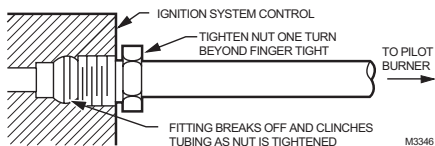

Fig. 7. Tighten new fitting and nut. Always use a new compression fitting.
9. While holding tubing all the way in, slide the new fitting (included with the new SmartValve™) into place and begin thread until finger tight as shown in Fig. 7.